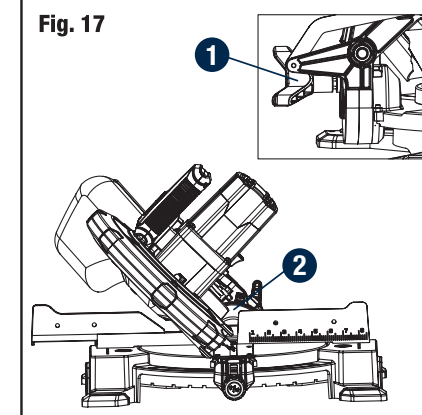

Fig. 17
**BEVEL CUT (Fig. 17)**
- When a bevel cut is required, loosen the bevel lock knob (1) by turning it clockwise.
- Tilt the cutting head to the desired angle, as shown on the bevel scale (2).